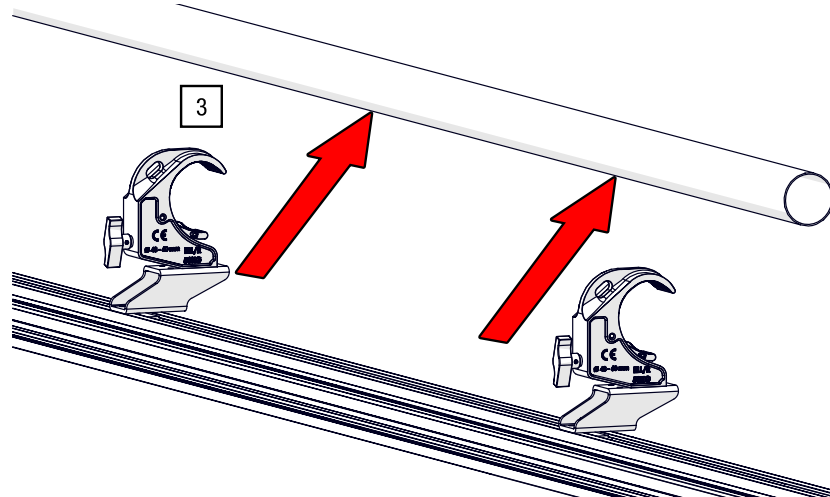

Fig. 53: G-CLAMP – Position on the pipe
3. Open the pipe clamps to maximum and lift them to the pipe of the support structure (see Fig. 53).